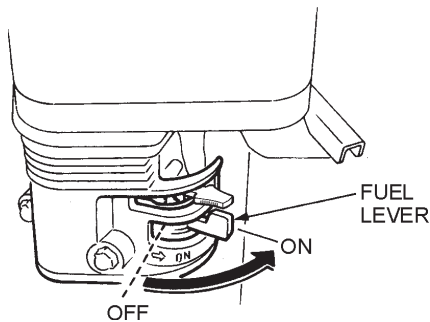

Figure 9. Fuel Valve Lever
1. Place the **fuel valve lever** (Figure 9) in the "ON" position.
3. Place the **fuel valve lever** (Figure 9) in the "OFF" position.